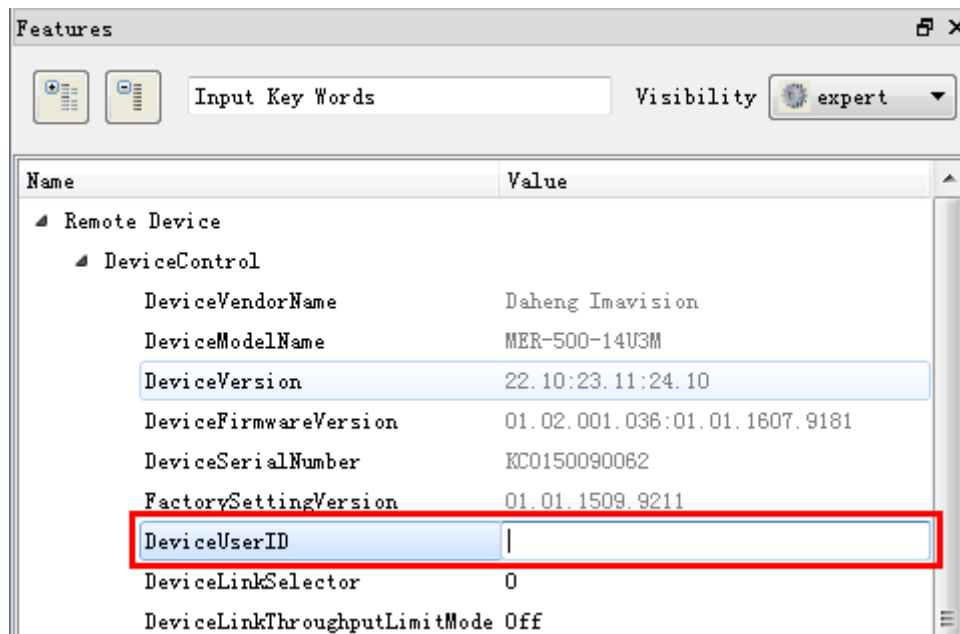

Figure 8-45 GalxyView software
- 1) Set by the GalxyView, as shown in the Figure 8-45.